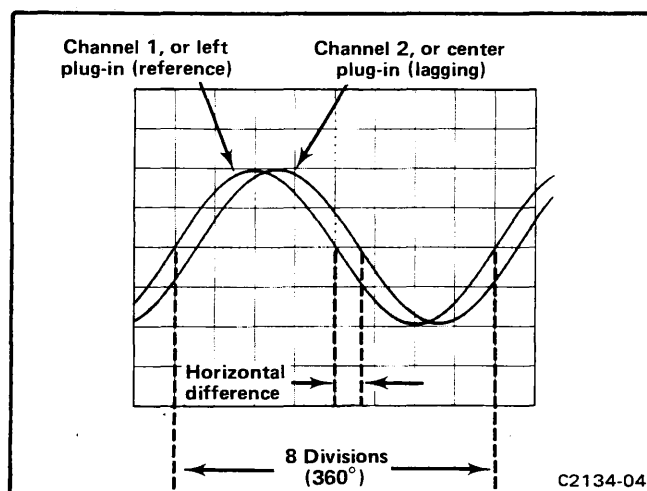
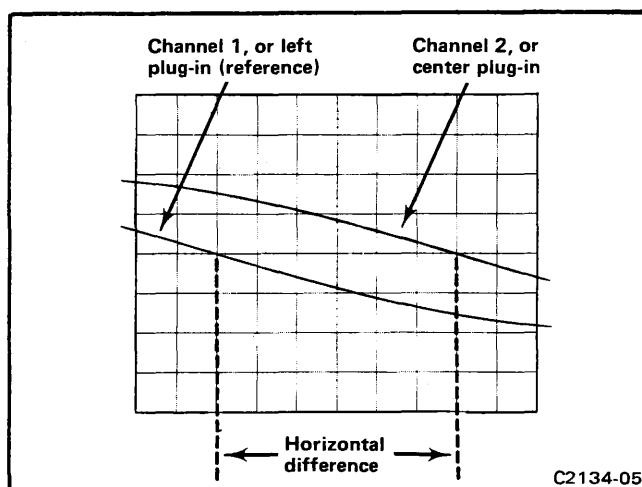

Figure 1-7. Measuring phase difference.
Figure 1-8. High-resolution phase difference measurement with increased sweep rate.
9. Turn the variable Seconds/Div control until one cycle of the reference signal, Channel 1 (left plug-in), occupies exactly eight divisions between the second and tenth vertical lines of the graticule (see Fig. 1-7). Each division of the graticule represents  $45^\circ$  of the cycle ( $360^\circ \div 8 \text{ divisions} = 45^\circ/\text{division}$ ). The sweep rate can be stated in terms of degrees as  $45^\circ/\text{division}$ .
**EXAMPLE:** Assume a horizontal difference of 0.6 division with a sweep rate of  $45^\circ/\text{division}$  as shown in Figure 1-7. Use the formula:
**EXAMPLE:** If the sweep rate were increased 10 times with the magnifier, the magnifier sweep rate should be  $45^\circ/\text{division} \div 10 = 4.5^\circ/\text{division}$ . Figure 1-8 shows the same signals as used in Figure 1-7, but with the Swp Mag button pushed in. With a horizontal difference of six divisions the phase difference is